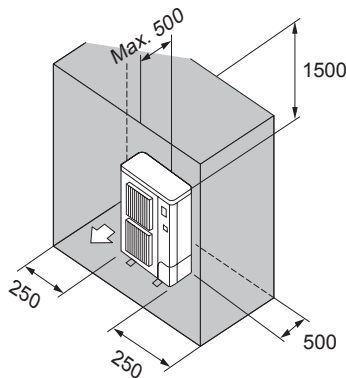

Fig. 4-11
- ⑥ Obstacles at rear, sides, and above only (Fig. 4-11)
(3) When installing multiple outdoor units (Refer to the next page)